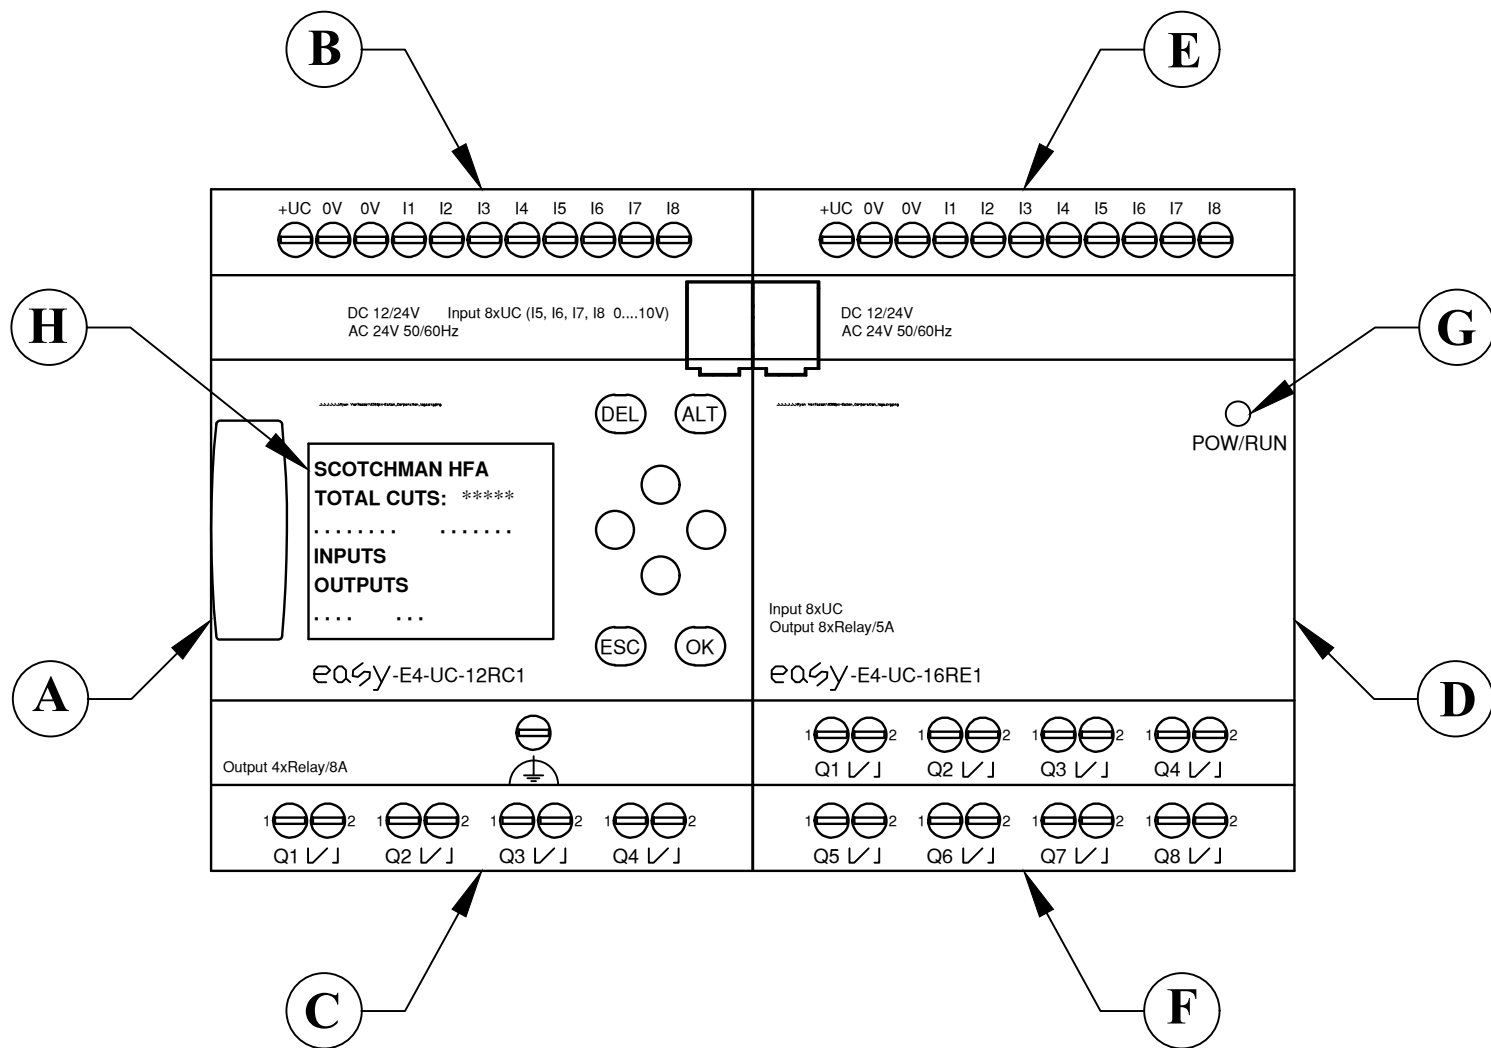

FIGURE 18
When the controller is first powered, the POW/RUN light (G) will flash green. When the controller is ready, the POW/RUN light will glow a constant green and the display screen (H) header will read SCOTCHMAN HFA. See FIGURE 18 below.